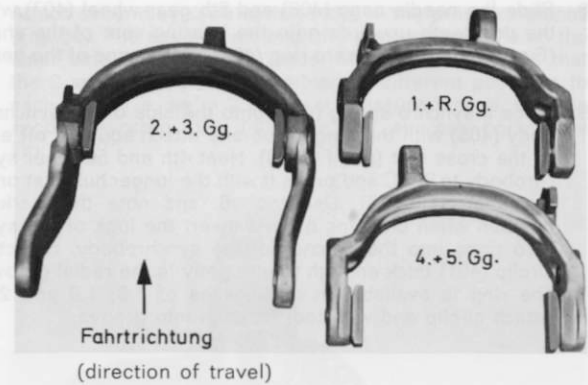

Fig. 39
2. Stick 2 selector pads (607) with grease into the bores of the selector forks (601, 609, 613), for selector fork (609) in the middle holes and for forks (601 and 613) in the lower holes (Fig. 39).